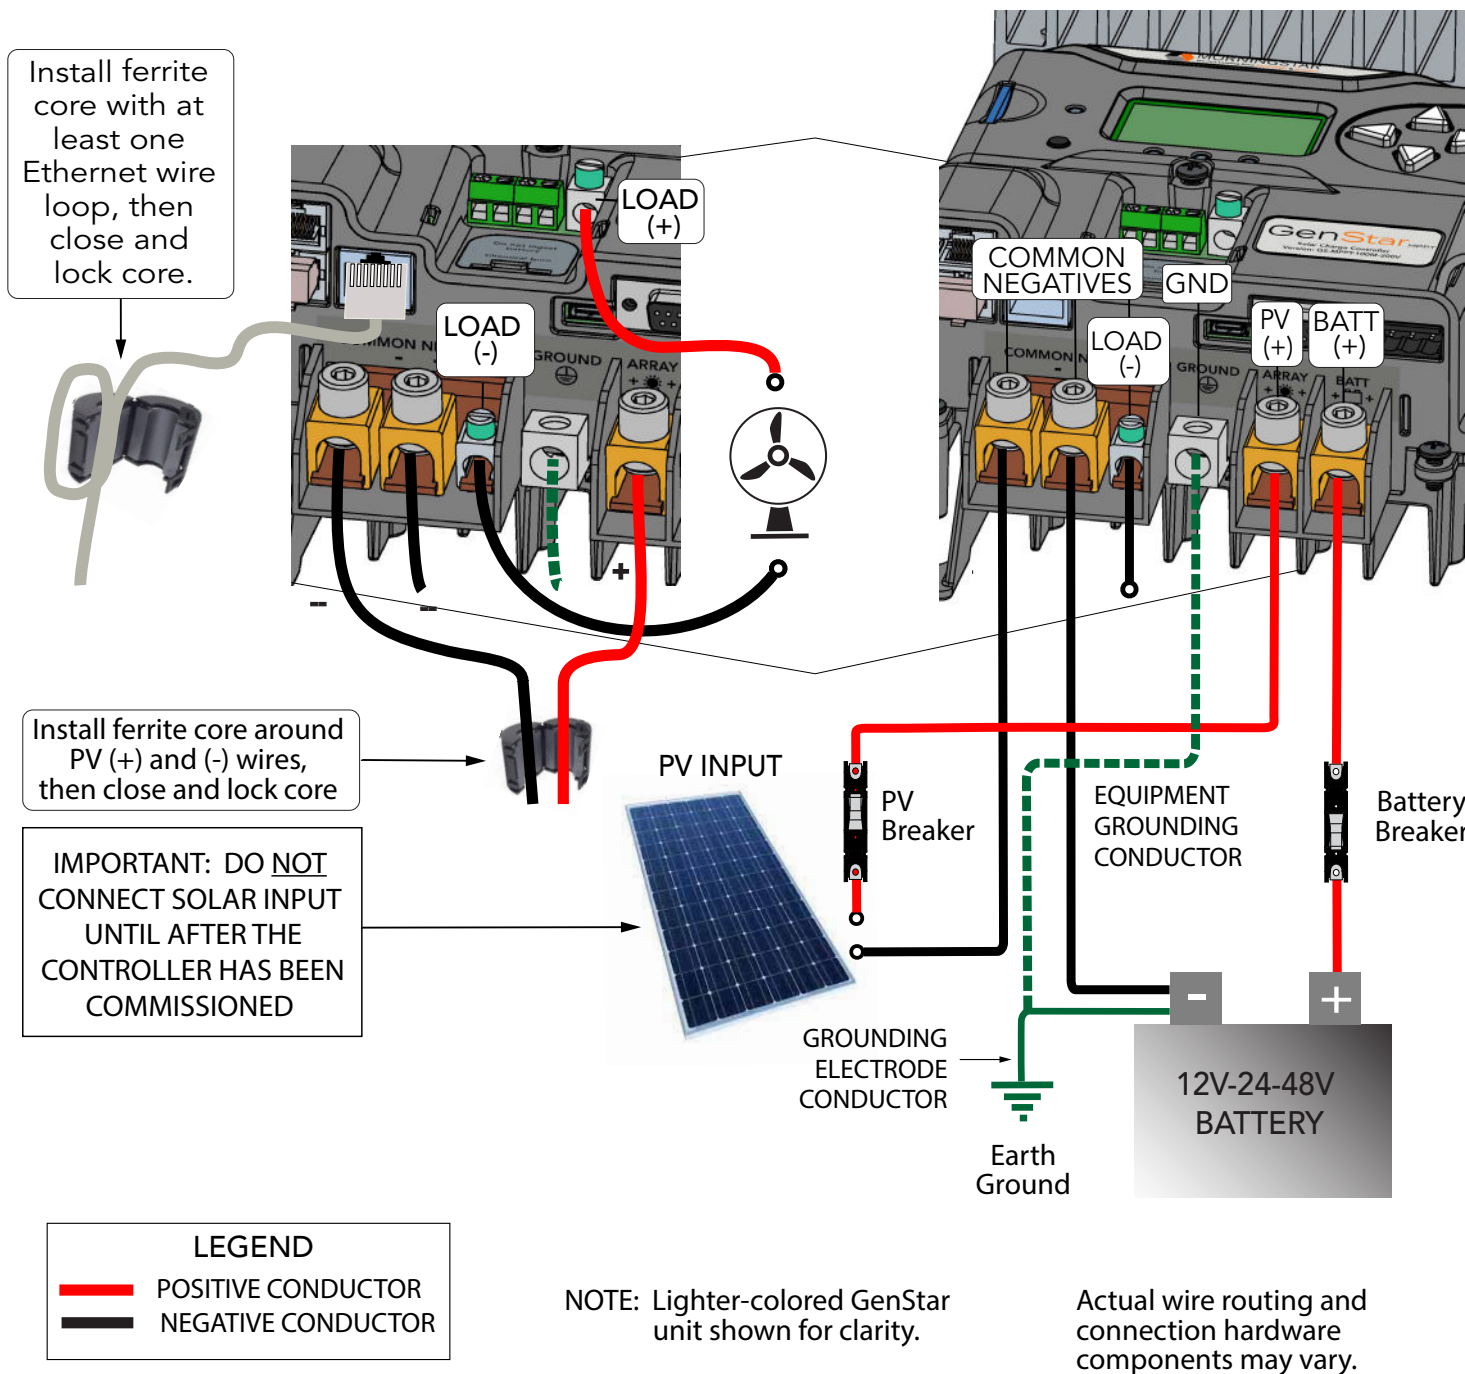

Figure 3-4. GenStar MPPT Power Wiring
Refer to Figure 3-4 above.
For safety and effective lightning protection, it is recommended and may be required by code, that the negative conductor of the charging system be properly grounded (refer to Figure 3-4). Do not connect the negative system wire to the case grounding terminal. The GenStar MPPT does not have internal ground fault protection; but where the NEC requires the use of a ground fault protection device (GFPD), **the system electrical negative must be bonded through a GFPD to earth ground at only one point.**
**Refer to Figure 3-4 above.**
- C. Connect the long wire from (A) to the vacant breaker terminal from (B), and then the other end to the GenStar battery (+) terminal.
- D. Where GenStar battery terminals are more than five (5) feet from the battery, or where circuits from these terminals pass through a wall or partition, U.S. NEC requires that overcurrent protection be provided at the solar controller in addition to providing overcurrent protection at the DC battery power source.
*Refer to Figure 3-4 above.*
1. Wire the PV array according to NEC Section 690 or applicable local regulations or code. Use caution, since the solar array will produce current whenever it is in sunlight (refer to Figure 3-4 above).
4. Fit and connect a negative wire between the GenStar PV (-) input terminal and the PV (-) busbar or combiner terminal. **DO NOT CONNECT THE ARRAY STRING (-) WIRE(S) TO THE COMBINER BOX AT THIS TIME.** This can be achieved by not connecting the PV (-) MC-4 connectors or the PV (-) wire(s) to the transition box, combiner box or the PV (-) disconnect.
refer to Figure 3-4 in section 3.4.2.